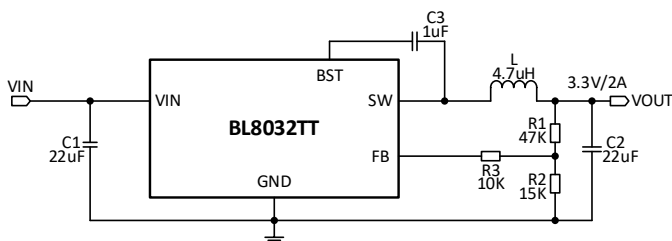

Figure 1
- 2) The resistance R3 in Figure 1 makes the loop more stable. If it isn't used, the resistance R1 and R2 should be adjusted(See Figure 2.). The value of R1 is recommended to be about 300KΩ.